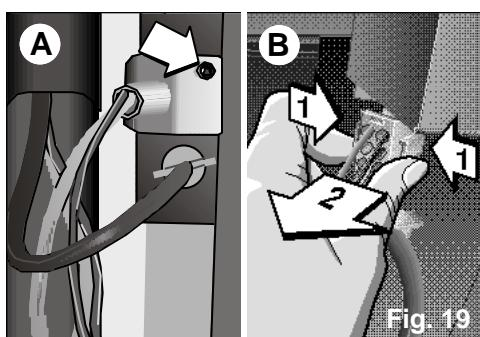

Fig. 19
- To extract the electrical connection, remove the screw , **Fig. 19 A** and the cover which conceals it. Press the tabs on the side of the connector carefully and remove it from its housing, **Fig. 19 B.**
Make sure that the electrical connection is covered by the cover and secured with the relevant screw. Fig. 19.